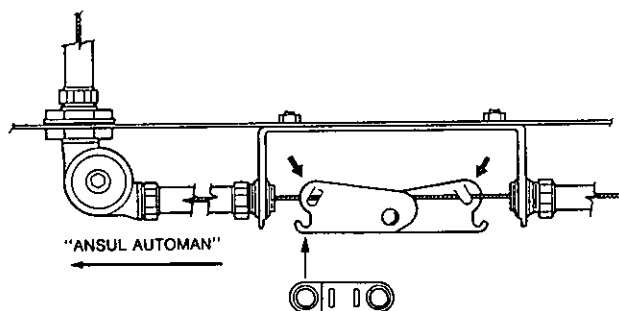

FIGURE 38
7. Install detector scissor assembly as shown in Figure 38. Note that the ANSUL AUTOMAN release is located on the left side of the detector bracket. Slightly crimp the two assembly "boot-hooks" over the cable with pliers so the cable is captured under each hook but the whole assembly can move from side to side. Center the assembly in the detector bracket.